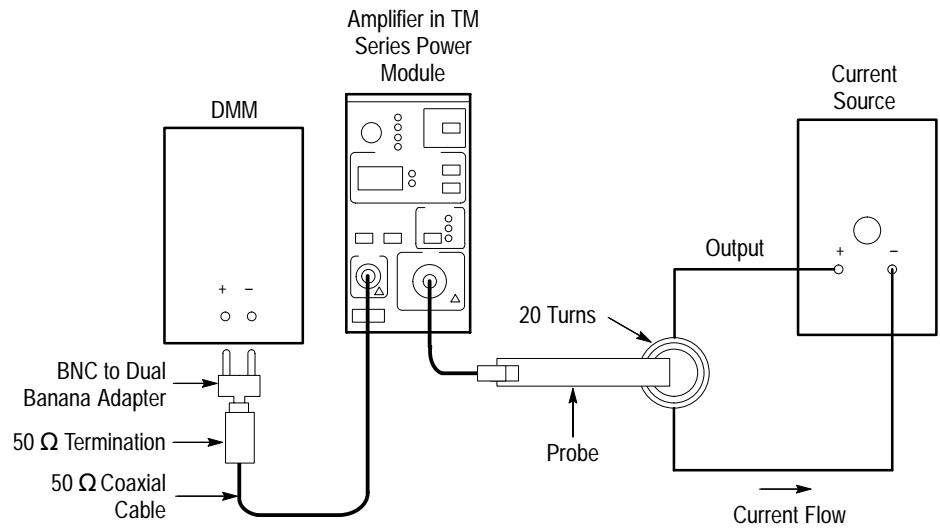

Figure 11: DC Gain Accuracy Test Setup for A6312
2. Connect the current loop to the current source as shown in Figure 11.